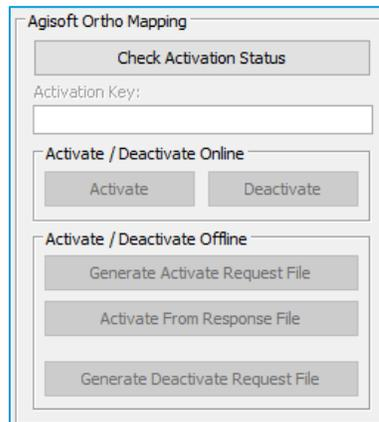

Figure 12 – Agisoft Ortho Mapping License Setting
5. On the EXP tab, in the Agisoft Ortho Mapping section (Figure 12), select **Check Activation Status**.
7. On the EXP tab, in the Agisoft Ortho Mapping section (Figure 12), select **Check Activation Status**.
15. On the EXP tab, in the Agisoft Ortho Mapping section (Figure 12), select **Check Activation Status**.